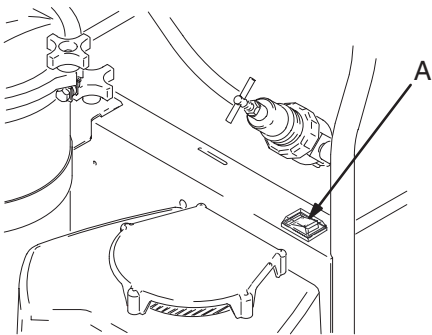

Fig. 3 7122B
2. Turn ON/OFF switch (A) ON. Run system for 15 minutes. Turn the switch OFF. See Fig. 3.